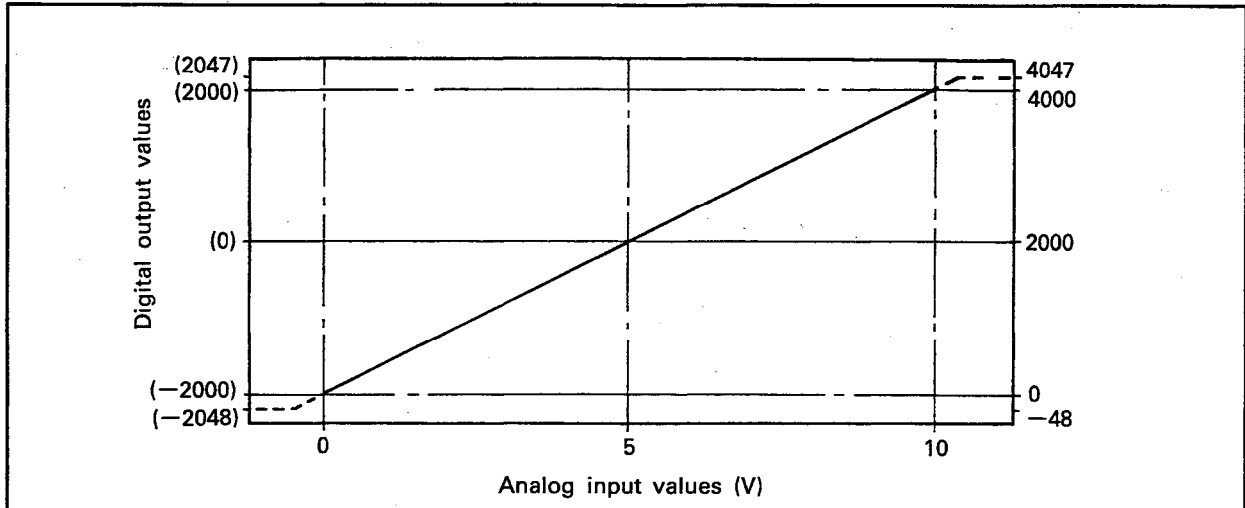

Fig. 3.6 A616TD I/O Characteristics
The A616TD analog input range is fixed from 0 to +10V. The I/O characteristics are shown in Fig. 3.6.
- 1) The digital output values can be selected from two output data formats: in the range  $-48$  to  $4047$  or  $-2048$  to  $2047$ . The output data format can be specified for each channel independently. (Refer to Section 6.2.1 (1) for details.)
- 2) The maximum resolution and overall accuracy values lie within the ranges shown in Table 3.4, when the input voltage is in the 0 to 10V range. However, the maximum resolution and overall accuracy values may not lie within these ranges if the input voltage exceeds the 0 to 10V range. Use of the sections of the A616TD I/O characteristic curve shown as a broken line in Fig. 3.6 should be avoided as the accuracy value may not comply with the table in these regions.